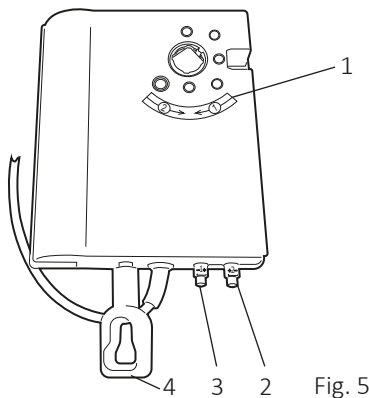

Fig. 5
3. Check that the rotation of the motor corresponds to the marking (1, Fig. 5), on both the motor and switch (for example, ASEM 1).
6. Secure the hose by first placing the rubber cloth (5) around the hose. Then insert the hose clamps (6) through the holes (7) and around the rubber cloth to lock securely.
7. Adjust the limit position for retracting using a set screw (3, Fig. 5). If the motor stops before the hose is rolled up in the correct position, make an adjustment by turning the set screw to "+". If the motor retracts the hose too far, run the hose out slightly and then adjust by turning the set screw to "-". Repeat until the limit position is correct.
When the power is off, pull the manual lever (4, Fig. 5) out to rotate the hose in or out.